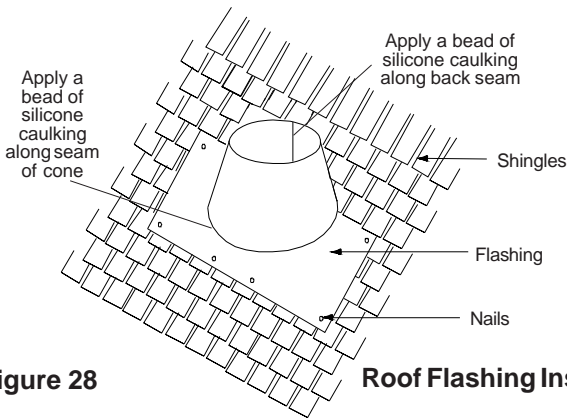

Figure 28 Roof Flashing Installation
of the flashing for a better fit. Ensure that the chimney is level and plumb before nailing flashing to the roof. Nail flashing to the roof deck (under the shingles) along the upper edge and down each side with 12 nails with neoprene washers or cover the nails with a suitable non hardening waterproof caulking . Seal the shingles to the plate in the same manner. As a precaution, apply a bead of caulking along all seams of the flashing above the roof as per Figure 28.
- I. Determine the location of the two Angle Brackets on the roof structure. Ensure the fasteners are into rafters or framing and not just roof sheathing. Secure the Angle Brackets to the roof structure using two (2) 1/4 X 2" lag screws per brackets (see Figure 28). Seal the roof with a suitable non-hardening waterproof caulking.